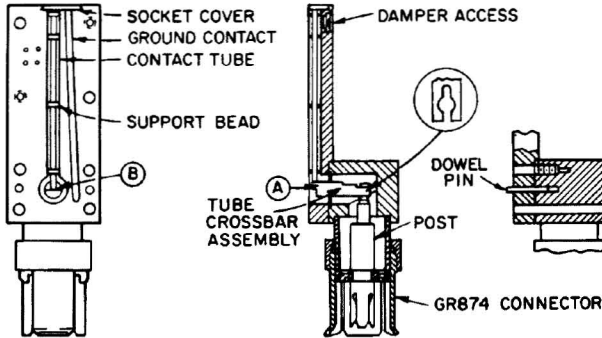

Figure 4-1. Cross-section views of typical mount.
4.4 DISASSEMBLY (Figure 4-1).
- e. Slip the beads on the tube, approximately as shown in Figure 4-1, and install the assembly.